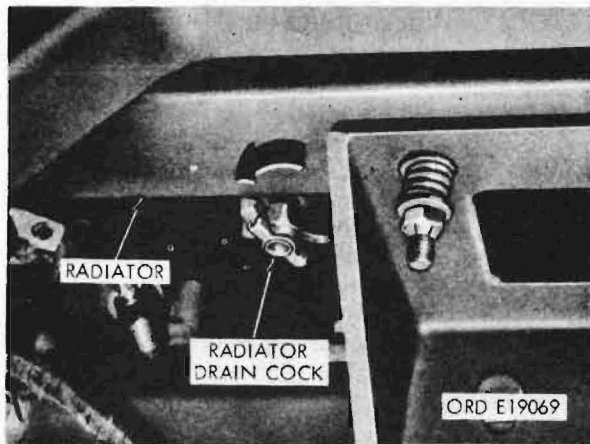

Figure 53. Radiator draincock
(38) Radiator draincock (fig. 53). This draincock, located on the bottom of the radiator, is turned left to drain the coolant from the radiator, then turned right to close.